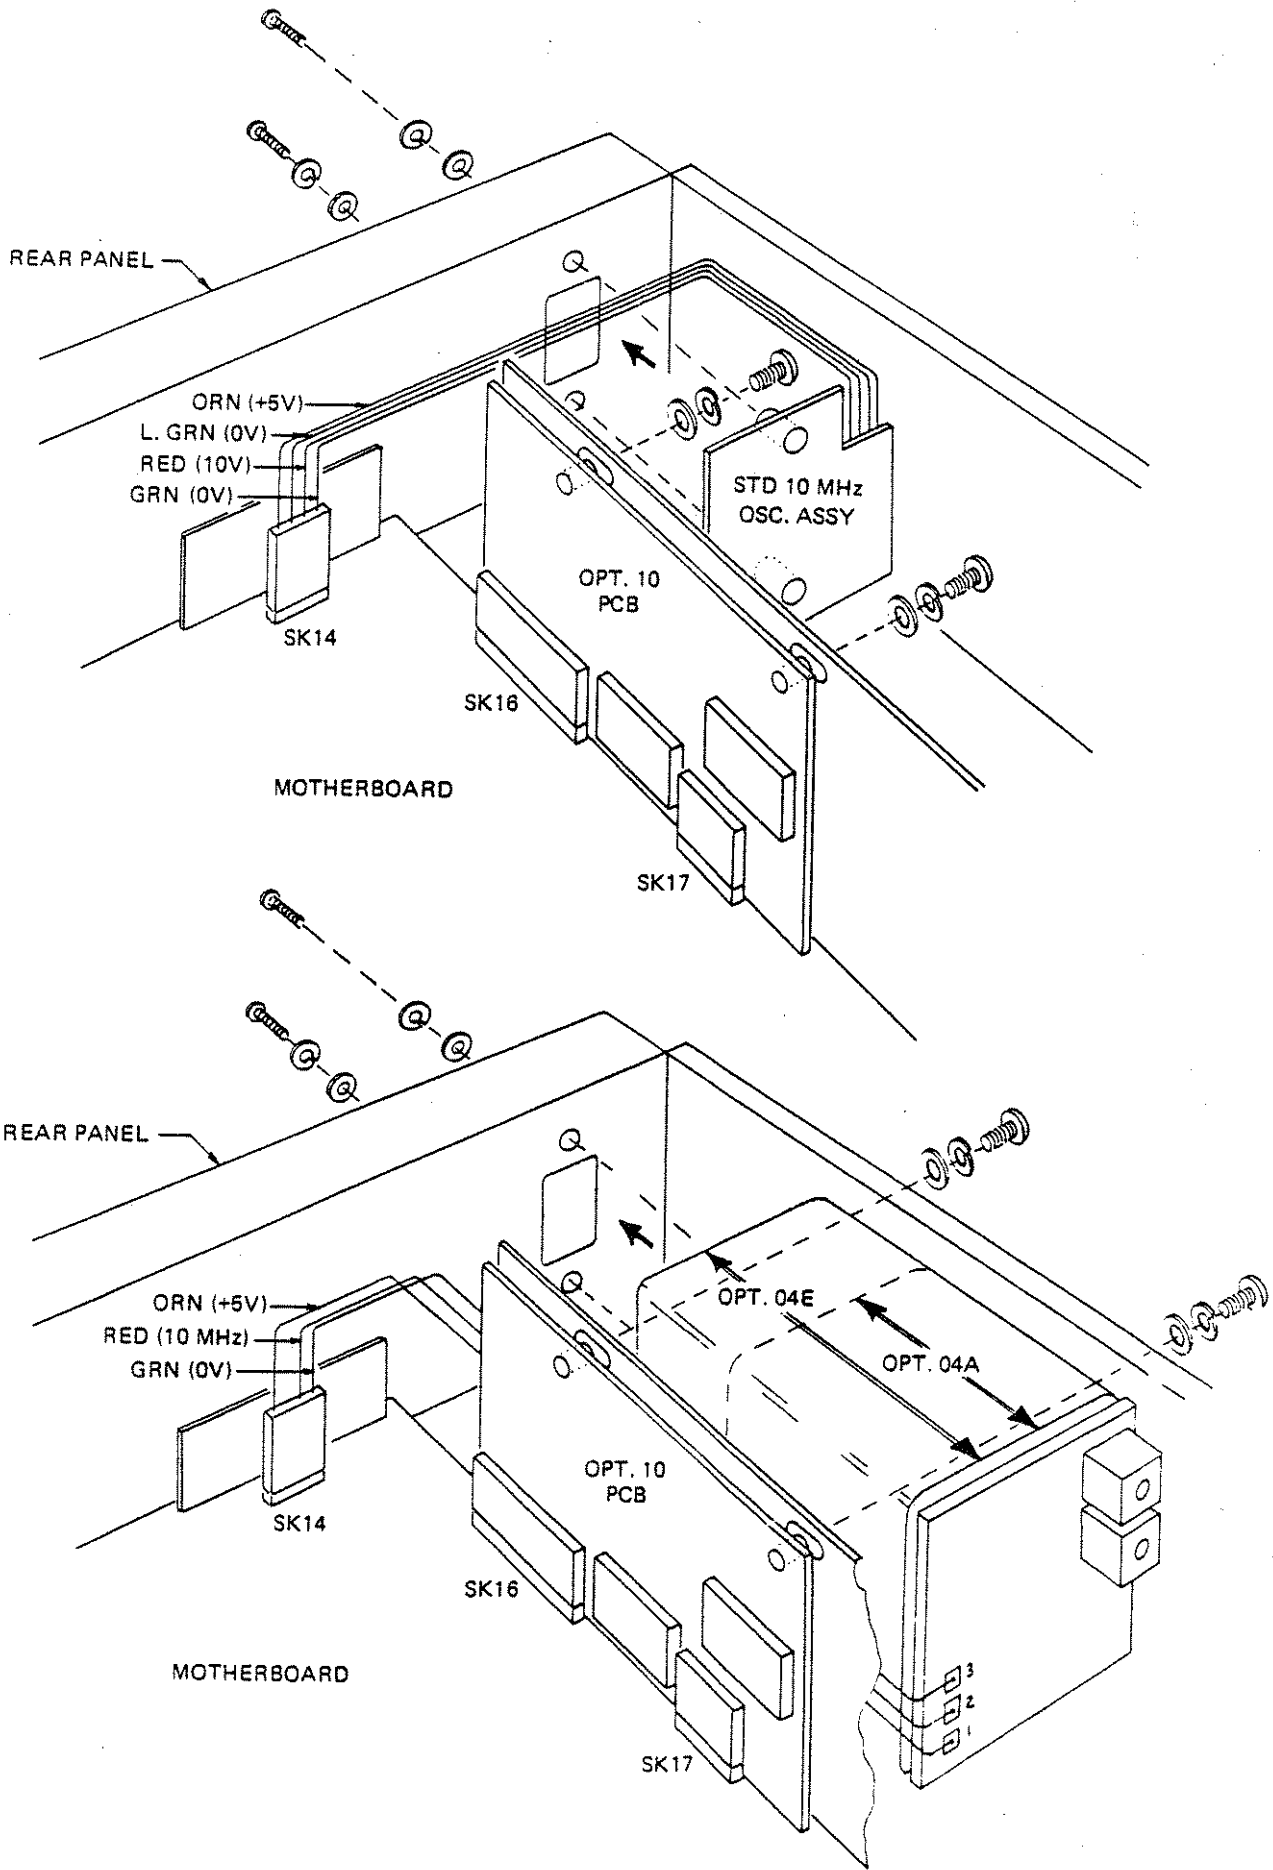

Figure 2.7 - Options 04A/04E and 10 Installation
**2.6.1.1** Refer to Figure 2.7 for these procedures. The installation package includes:
2.6.2.1 Refer to Figure 2.7 for this procedure. The installation package includes: